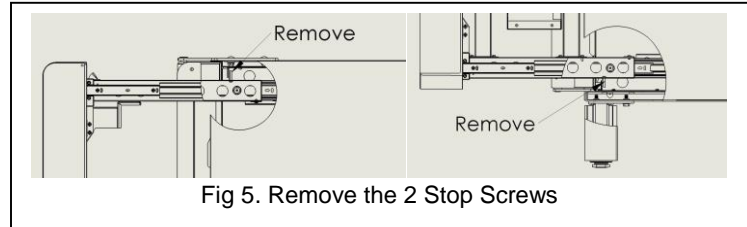

Fig 5. Remove the 2 Stop Screws
1. Remove the (2) stop screws from the top and bottom slider channel as shown in Fig 5. Top Hinge: